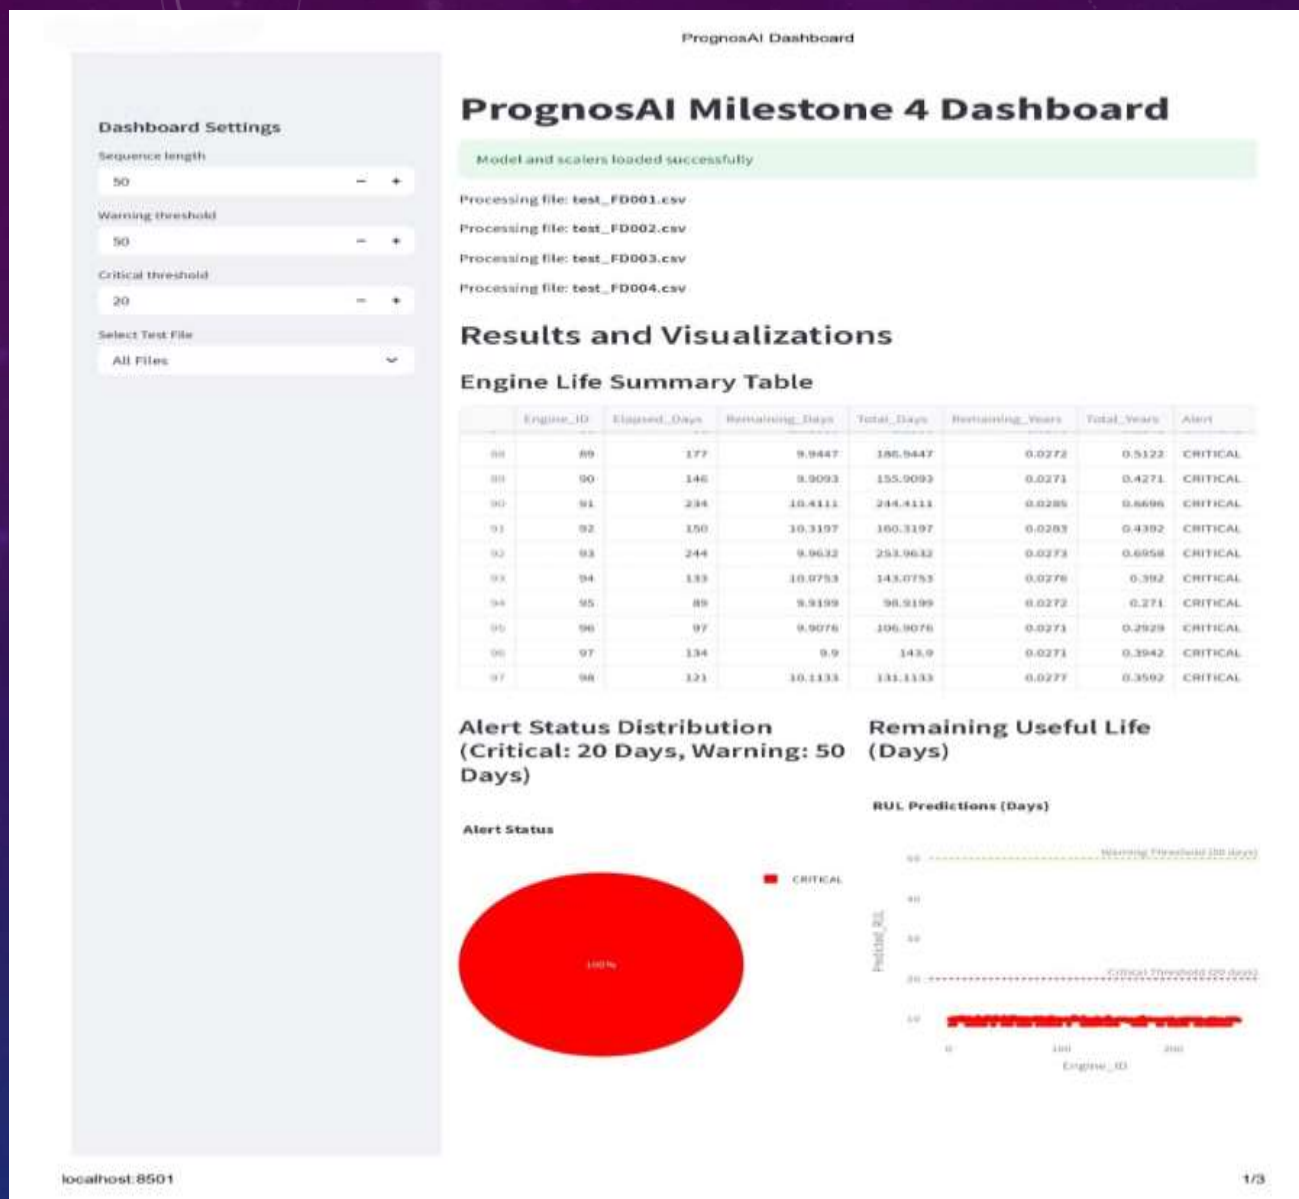

Figure2: PrognosAI Dashboard Visualization
- Figures 2,3 and 4: Dashboard Screens, RUL Trends, Alert Distribution